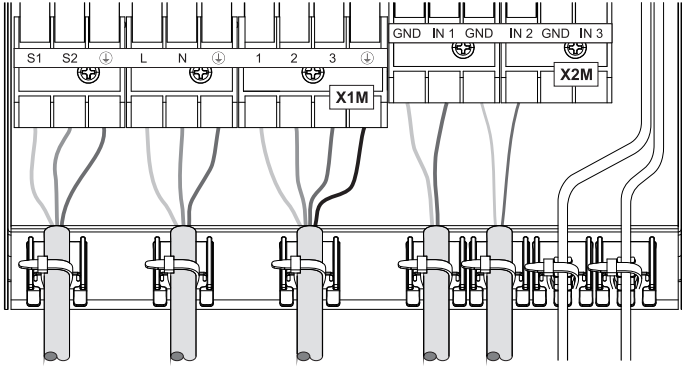

Fig. 3-8 Strain relief by cable ties
- For all cables connected to DAIKIN EKHHP, effective strain relief must be ensured in the switch box by means of cable ties (see fig. 3-8 to 3-10).